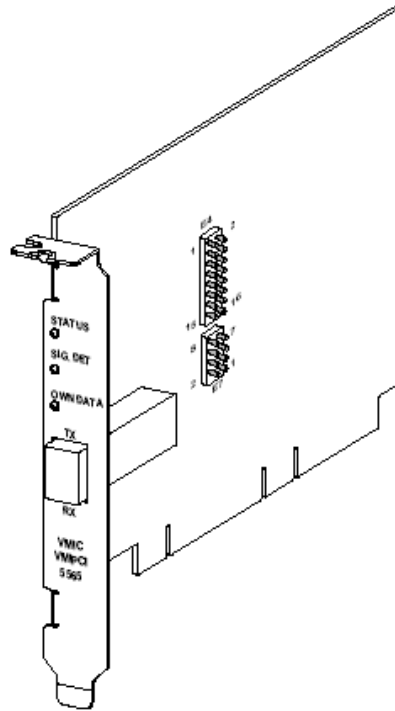

Figure 6-1- VMIPCI-5565 Jumper Locations
- **Jumper E7 (Operating Mode).** Jumper E7 controls the operating mode of the board. The default factory configuration is all jumper shunts installed (except pins 7 and 8). The details of these modes are beyond the scope of the document and are explained in the VMIC documentation. These modes are hardware settings and do not affect the operation with the Acutrol3000. They do have a pronounced effect on the network and the operation of all other nodes must be considered before adjusting these settings. Figure 6-1 lists the jumpers and their functions.